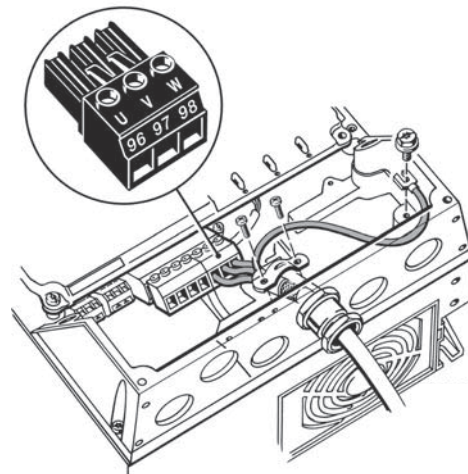

Fig. 13 Motor connection, A5
1. Connect the ground conductor to terminal 99 (PE). See fig. 13.
2. Connect the motor conductors to the terminals 96 (U), 97 (V), 98 (W) of the motor plug.